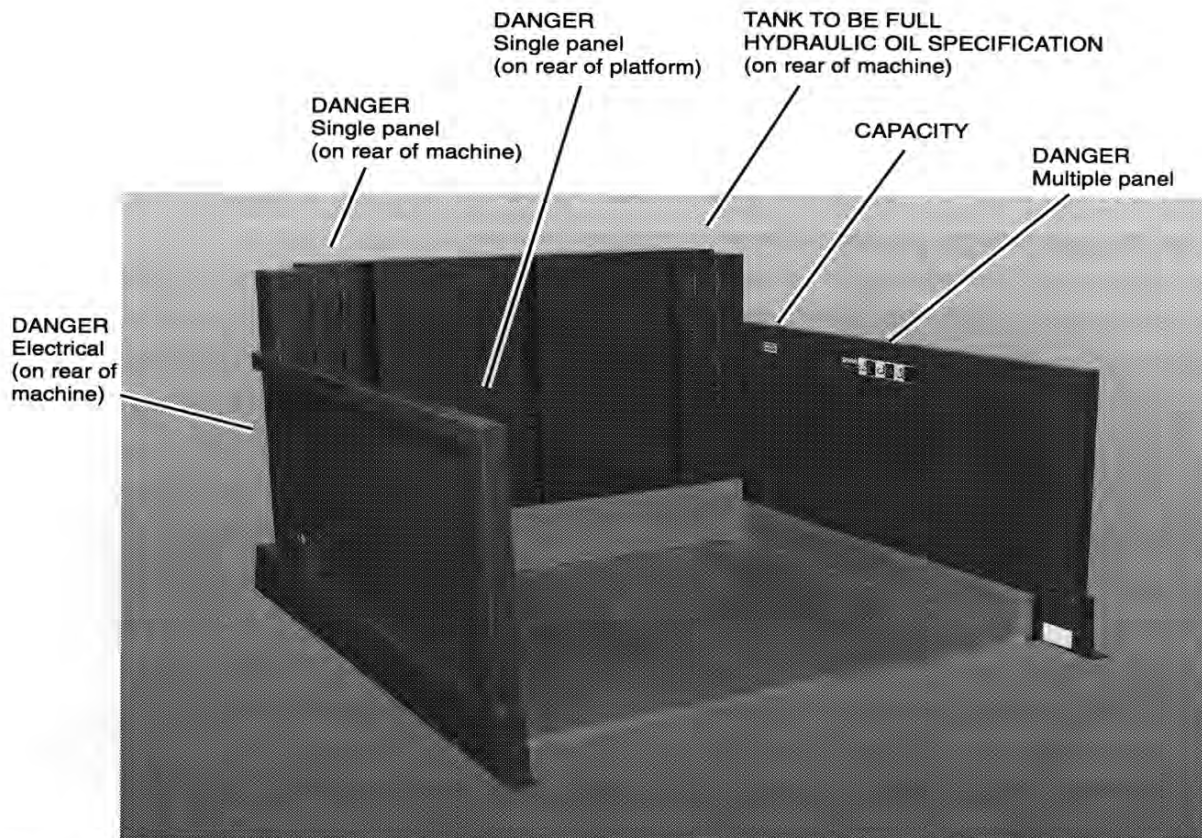

Fig. 1 Safety Labels
5. Figure 1 shows the safety labels on this unit. Check to be sure all of the labels are in place.